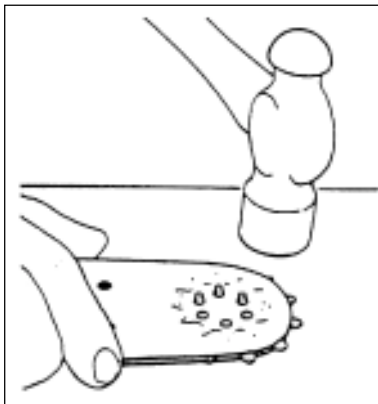

**Figure 27. Installing a New Nose Sprocket**
4. With a flat blade screw driver in the bar nose rails, slide the nose sprocket assembly into position aligning the 6 holes in the bar nose with the 6 holes in the nose sprocket assembly without removing the components from the card. See Figure 27.